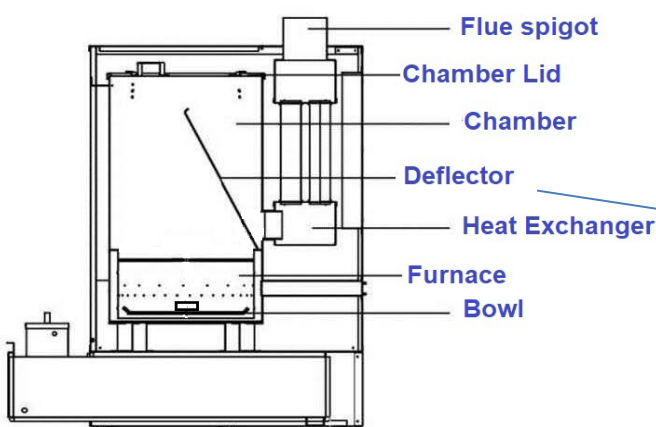

Fig. 3. Combustion chamber structure, profile left; Top view right, shows deflector position
- place the deflector inside the combustion chamber according to Fig. 3.,
- Lift the top cover of the heater up and remove the combustion chamber cover. Then, take the deflector out (if necessary, **thoroughly clean the cast iron bowl or pan, the furnace chamber**, the base which it is placed on and the entire combustion chamber, see fig 3)
- Check whether the furnace bowl is cool and clean and **pour 300 ml of diesel** onto the cast iron vapourising pan & replace the deflector [see fig 3 for position]